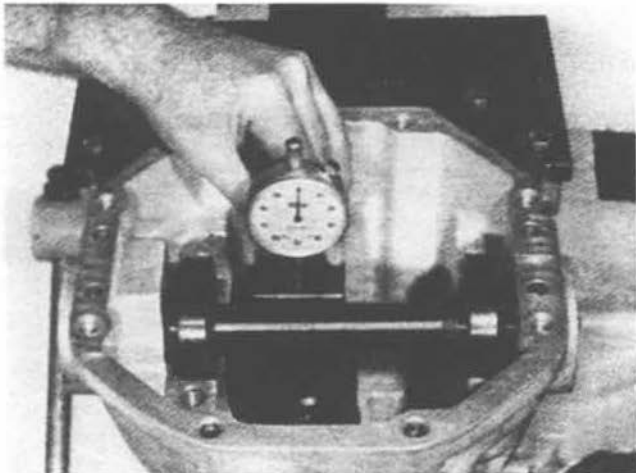

**Figure 55**
Place the arbor discs and arbor into the cross bore of the carrier. Place the pinion height block on the button end of the pinion. Set dial indicator of scooter gage at zero (0). Slide the scooter gage towards the arbor. As discussed in Figure 55, the indicator will show the greatest clockwise reading when it is at the top center of arbor. This reading indicates the position of the pinion.